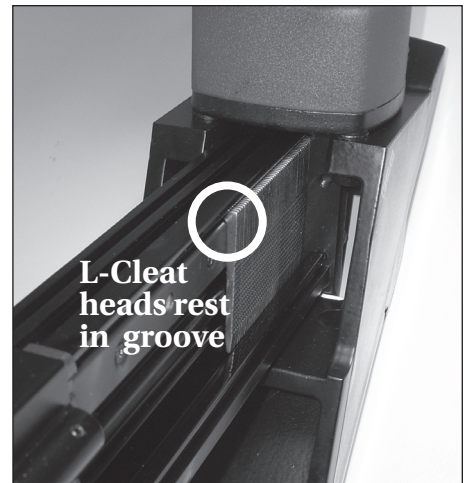

Figure 19 - The head of the L-CLEAT should rest on the groove of the fixed magazine
2. Place the specified type and size of L-Cleats in the magazine from side. The head of the L-Cleats should be inserted into the notch on the fixed magazine (see Figure 19).